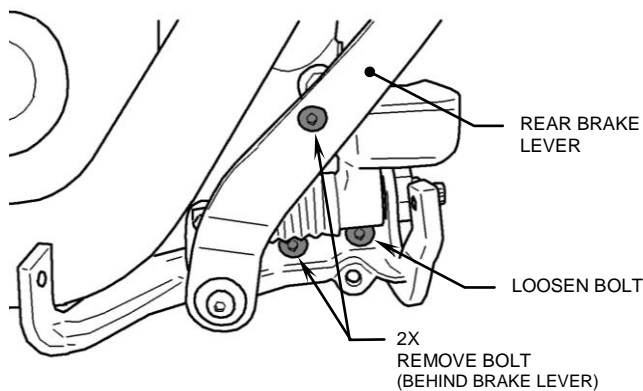

FIGURE 1
2. Remove the two right floorboard/rear brake lever mount bolts leaving the third in place, but loosen and rotate mount down out of the way. See Figure 1. This will make installation of exhaust and heatshields possible.